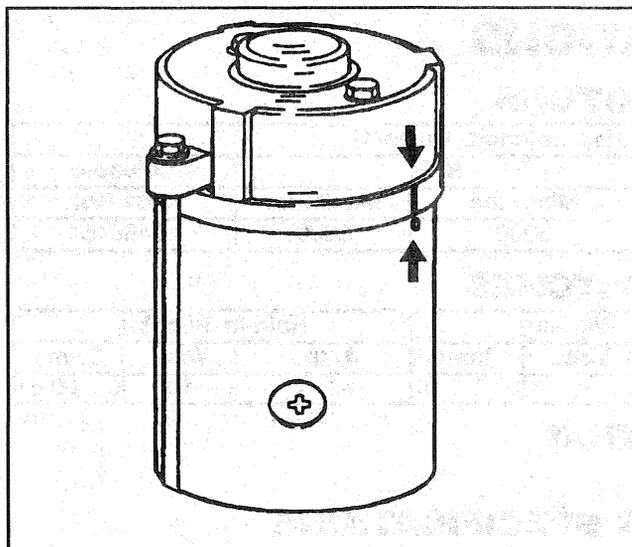

Figure 17—Aligning Timing Marks
- A. Align the marks on the commutator end frame and frame and field assembly made prior to disassembly (Figure 17).
- C. Align the timing ribs on the edge of the commutator end frame with the timing spots on the frame and field assembly to ensure proper brush alignment (Figure 17). Marks are located in two places on the motor, but will only match one way.